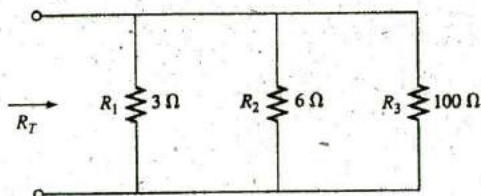

FIG. 6.8
- What is the effect of adding another resistor of $100\ \Omega$ in parallel with the parallel resistors of Example 6.1 as shown in Fig. 6.8?
- What is the effect of adding a parallel $1\ \Omega$ resistor to the configuration in Fig. 6.8?